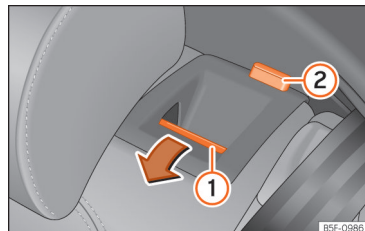

Fig. 74 Rear seat: folding down the backrest.
- Press the unlock button >>> Fig. 74 ① forwards and at the same time fold the backrest down. The rear seat backrest is not engaged when the red marking of the button ② is visible.